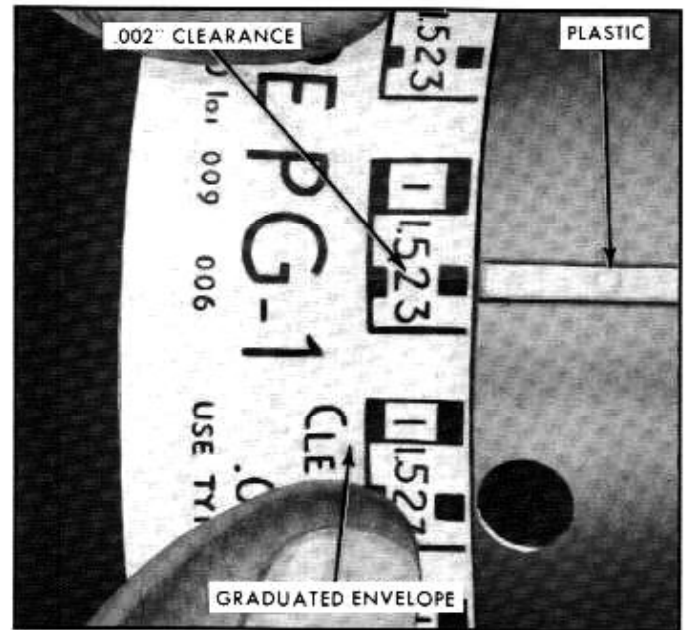

Fig. 6A-64—Checking Bearing Clearance
the scale printed on the Plastigage envelope. See figure 6A-64. If clearance is less than .0008" or more than .0026" (wear limit .0036"), try another selective fit bearing to bring the clearance within the desired limits.
8. Check connecting rod side clearance using a feeler gauge. See figure 6A-60. The specified limits are .006" to .016" (wear limit .019"). Replace bearing inserts if side clearance is greater than specified.